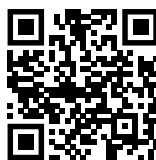

Fig. 60
- ▶ Otevřete Liebherr SmartMonitoring Dashboard. (viz Fig. 60)